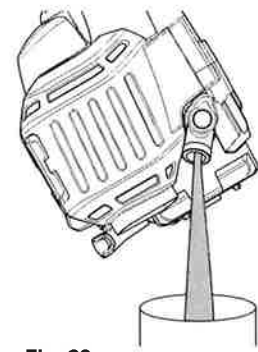

Fig. 22
3. Tip the unit vertically to pour the oil out of the oil fill hole and into a container (Fig. 22). Allow ample time for complete drainage.